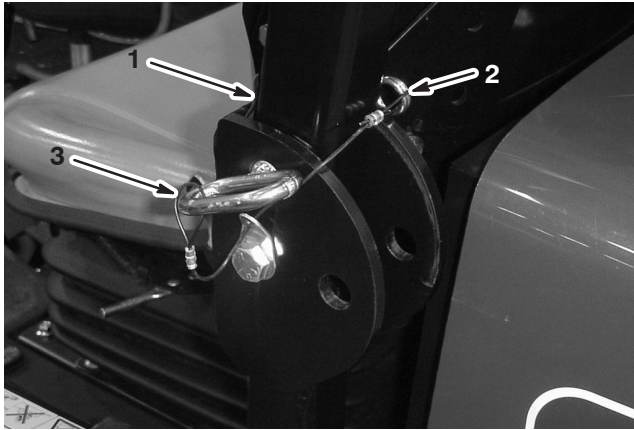

Figure 10
1. Remove the hairpin cotter pins and remove the two pins (Fig. 10).
2. Raise the roll bar to the upright position and install the two pins and secure them with the hairpin cotter pins (Fig. 10).